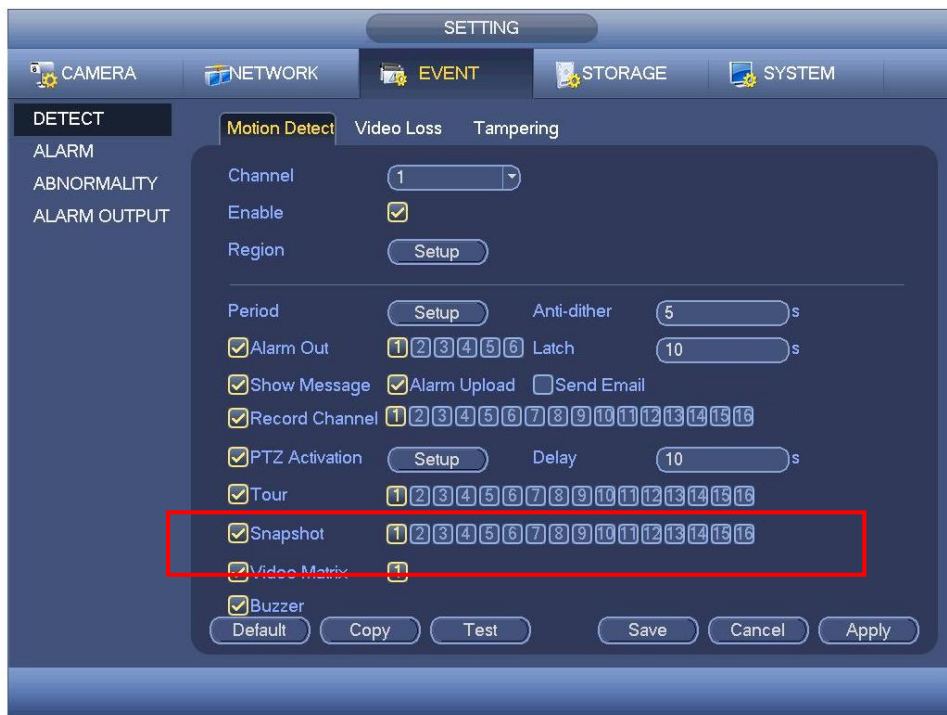
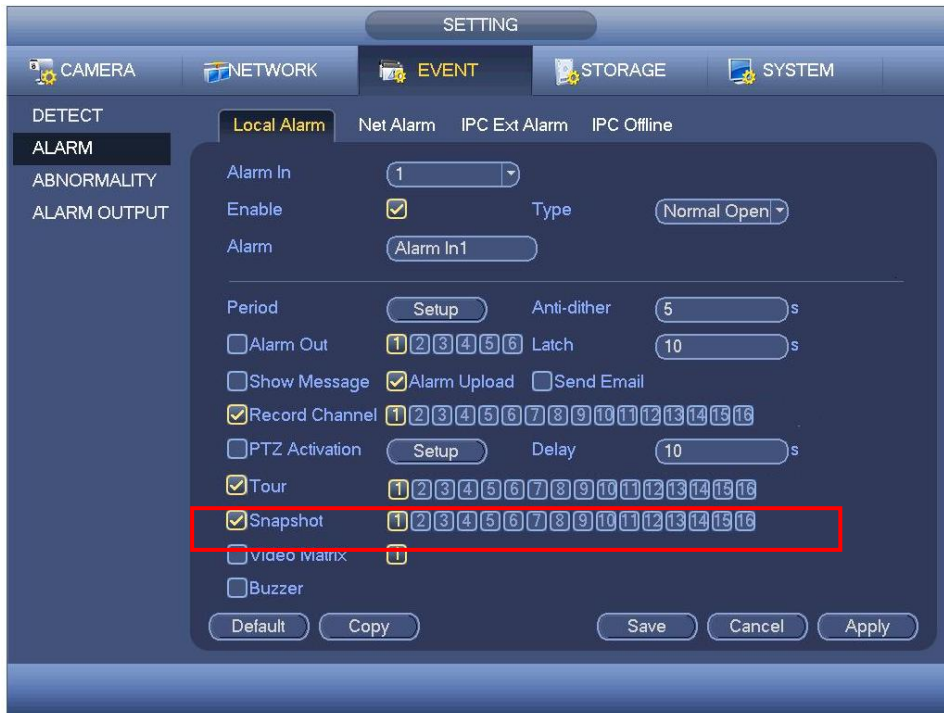

Figure 4-99
Figure 4-100
- In main menu, from Setting->Event->Detect, please enable snapshot function for specified channels (Figure 4-99). Or In main menu, from Setting->Event->Alarm (Figure 4-100) please enable snapshot function for specified channels.